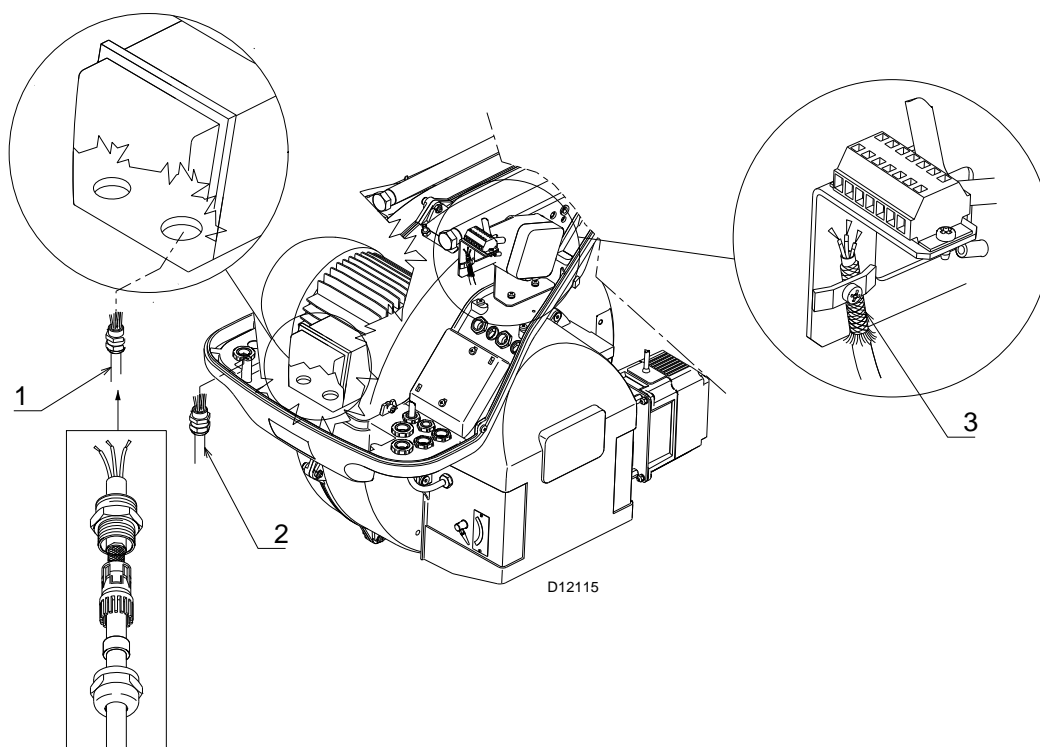

Fig. 22
It is important to shield the motor cable 1) as indicated in Fig. 22.
Key (Fig. 22)
The connection from the inverter to the REC 37... electronic cam, must be performed as indicated in Fig. 22 pos. 3.